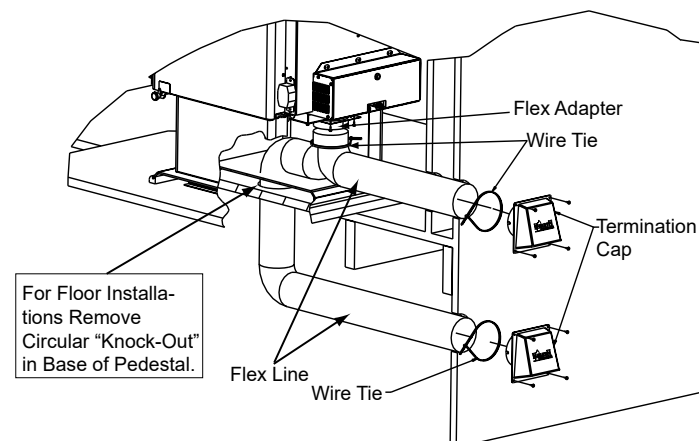
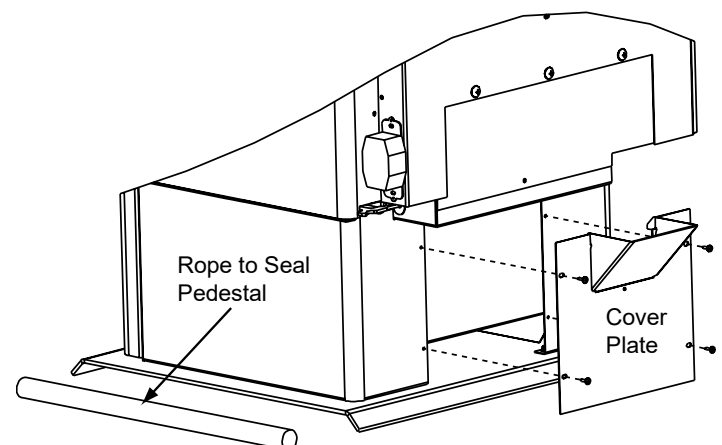

Figure 16.1 - Floor & Rear Installation
Figure 16.2
Cover plate and sealing rope (see Floor Installation Alternative below, **Figure 16.2**)
2. Using a #2 Phillips screw driver attach the flex adapter to the appliance using 4 screws (**Figure 16.1**)
5. **Floor Installation Alternative:** In some instances you may not be able to install the flex pipe as show in **Figure 16.1**. If that is the case, you will need to order SRV7033-041 which includes a cover plate and sealing rope as shown in **Figure 16.2**. The goal is to seal the pedestal so no room air can leak into the pedestal or for cold air infiltration.